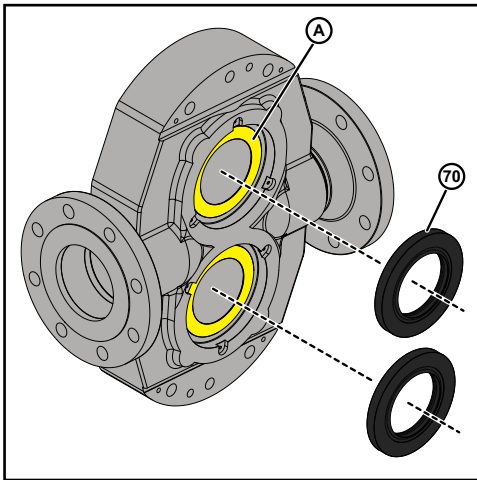

Figure 90 - Install Lip Seals
3. Apply a thin bead of silicone sealant (A) to the body, as shown in Figure 90.
4. Install the lip seals (70) into the pump body, as shown in Figure 90. Use the press tool to light press firmly and evenly into place.